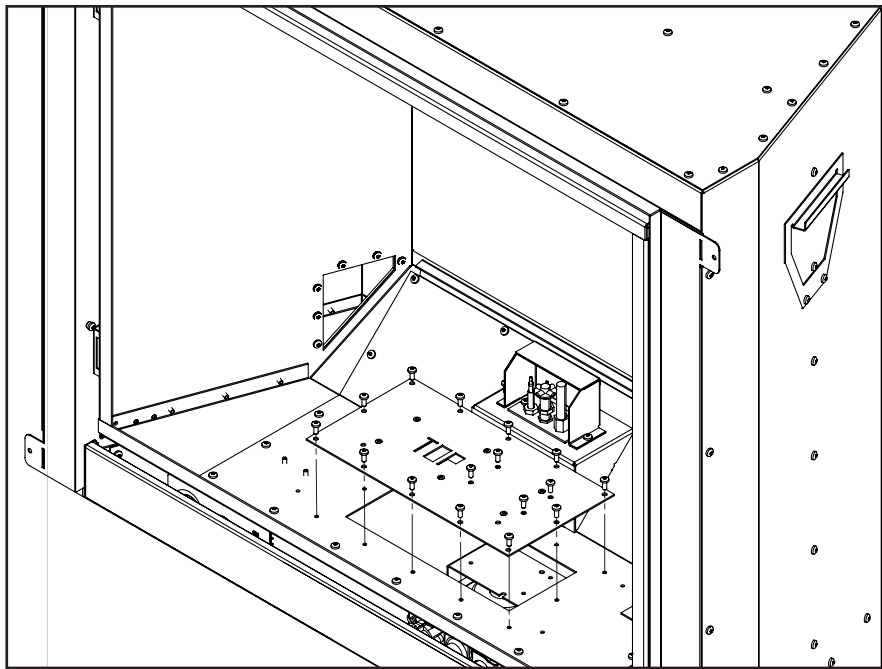

Figure 22. Removing Access Door
**Step 2:** Remove the Upper Air Diverter by removing (2) T-20 bolts. Remove the Lower Air Diverter.
**Step 3:** Remove the right and left burner stands by removing (4) T-20 bolts.
**Step 4:** Remove the (16) T-20 bolts retaining the access door as shown in Figure 22.